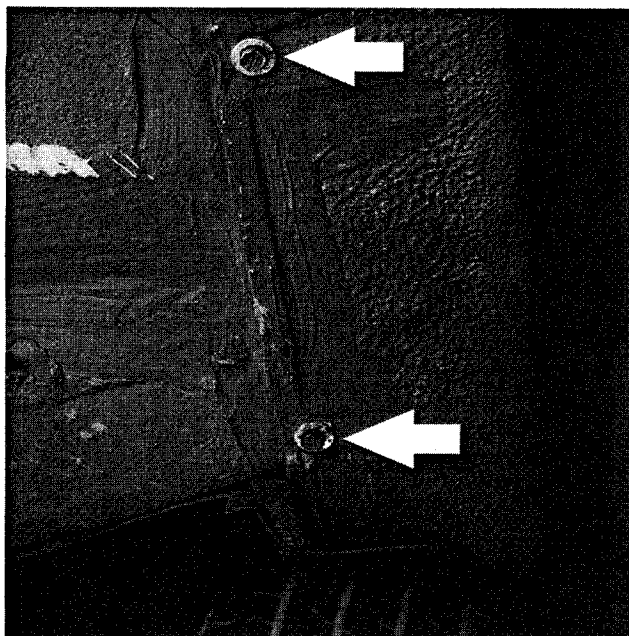

Fig. 2. Fender attaching bolts, lower front (arrows).
6. Remove fender attaching bolts at front underside of fender. See Fig. 2.